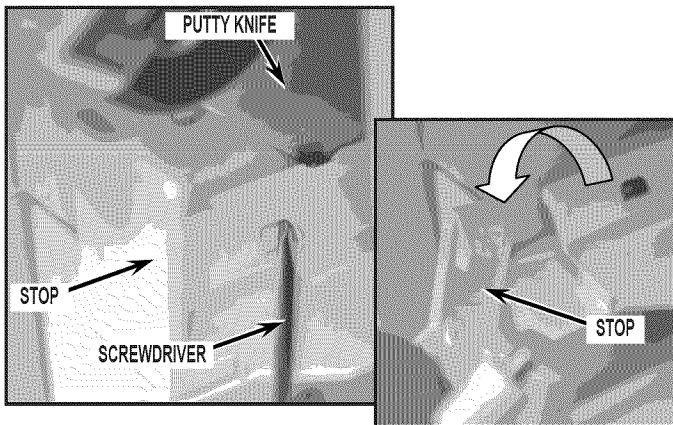

FIGURE 2
1. Remove two (2), 1/4" screws on top/inside of freezer door and lift off the freezer door.
3. Insert a stiff blade putty knife behind the rail past the basket stop and force the rail inward while inserting a small blade screwdriver into the square slot in the rail. Pry out the stop. Only one stop needs to be removed. See *Figure 2*.